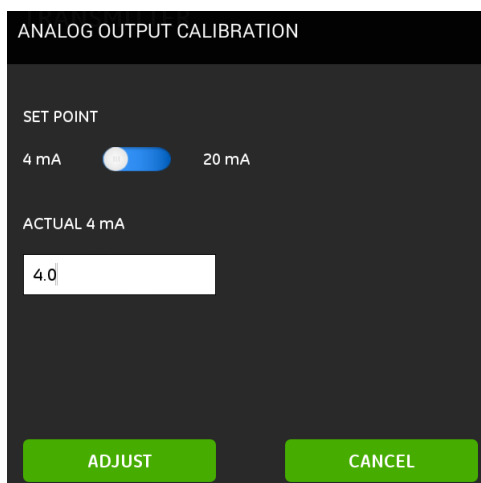
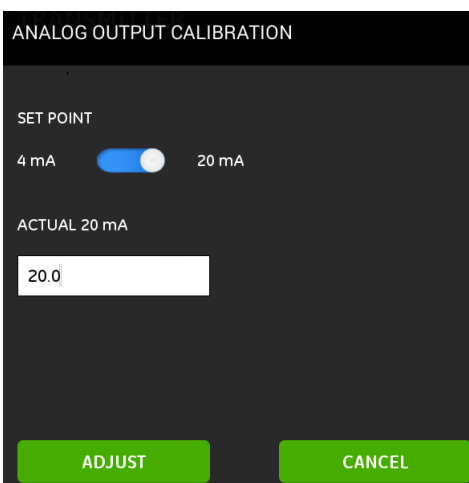

Figure 57: AO Zero calibration
Figure 58: AO Span calibration
- **Analog output**, click the **CALIBRATION** button, a pop up menu would display like figure 57 and 58. The calibration procedure consists of calibrating the analog output zero point (4mA) (figure 57) and then calibrating the full scale point (20mA) (figure 58). The edited value is the actual value derived from an ammeter or digital voltmeter.